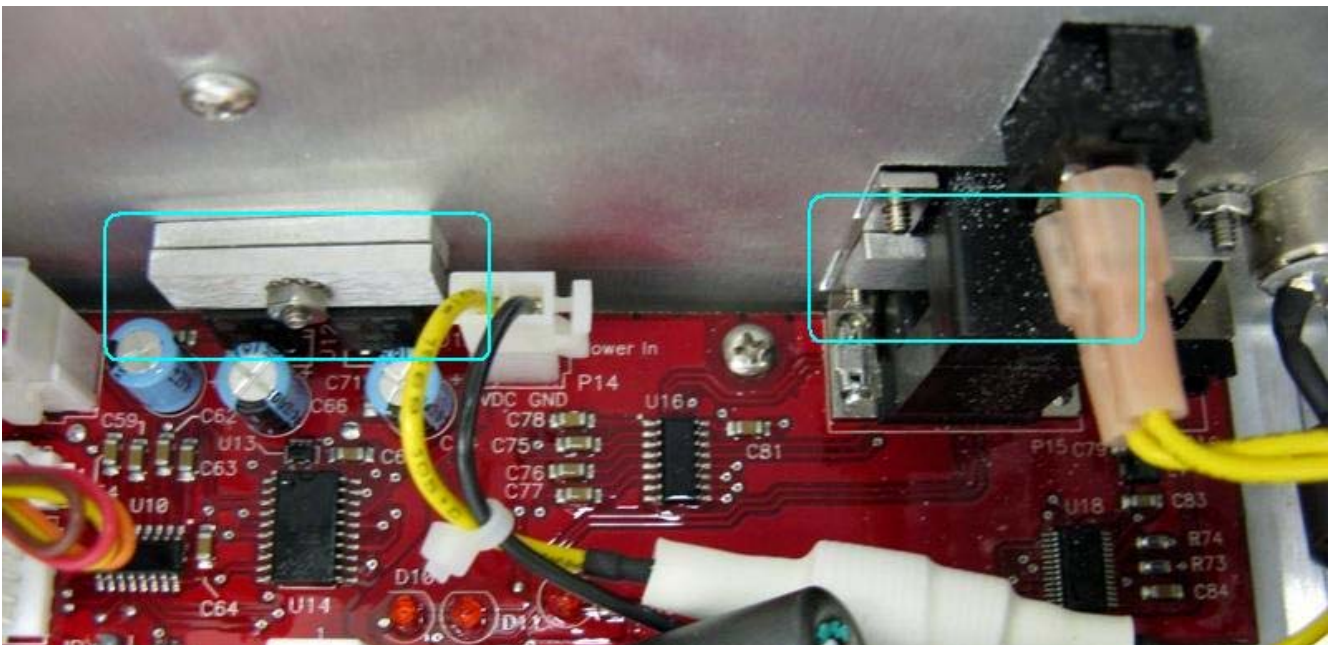

Figure 1-16. Comm port mounting screw is located on the back side of the sampler.
16. Remove the ¼ inch nut holding the heat sink for the voltage regulators and the mounting screw for the comm port retaining strap. See Figure 1-16.
23. Replace comm port mounting strap and screw. Ensure the PIM nut in the strap is oriented away from the chassis to ensure it is not pulled out of the strap when tightened. See Figure 1-16.